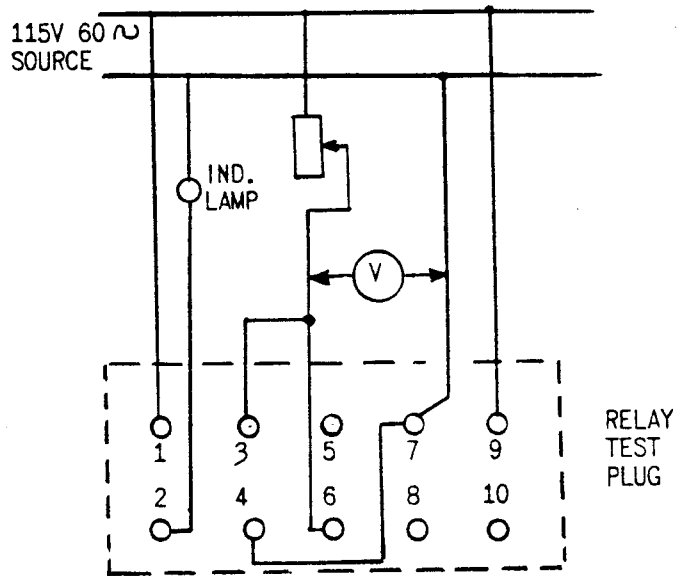

Fig. 8B (0165A7737-0) Test Connections for Relay Type IJS52E
4. With a 115 volt, 60 cycle source and connection shown in Fig. 8B, check that the telephone-type units pickup between 35 and 52 volts and that these units drop out between 17 and 35 volts.